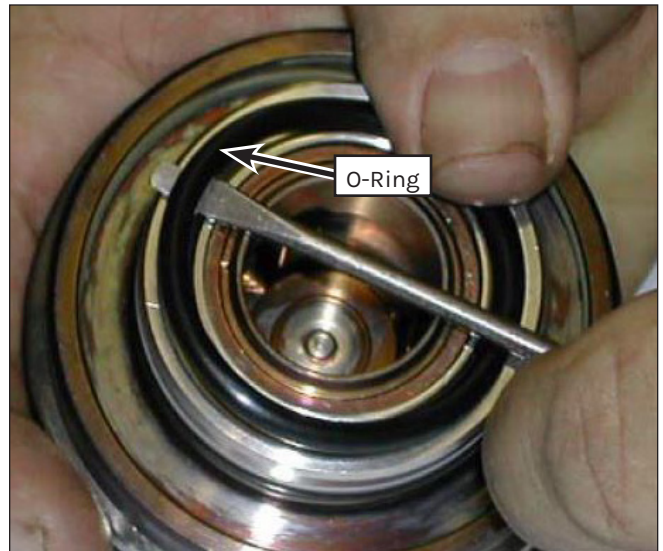

Figure 109: O-Ring Removal.
1. Remove the O-ring at each end of the valve (Figure 109). Discard the O-rings.